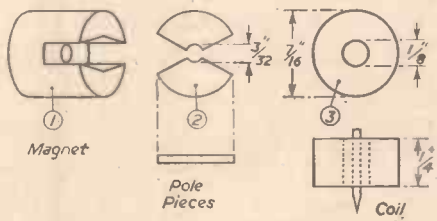

Fig. 1.—Magnetic cartridge assembly.
Fig. 1 shows the constructional details of the magnetic cartridge assembly: magnet (1), pole pieces (2), and coil (3). The pole pieces are made by drilling and sawing to shape the keeper supplied with the magnet, while the
through the rubber as shown in (3) of Fig. 1. Cement the pole pieces (2) to the coil, keeping the needle centrally in the aperture and assemble as in Fig. 3. This can now be inserted into a piece of thin-walled brass tube. Those with sisters will find that an old lipstick case will do admirably.